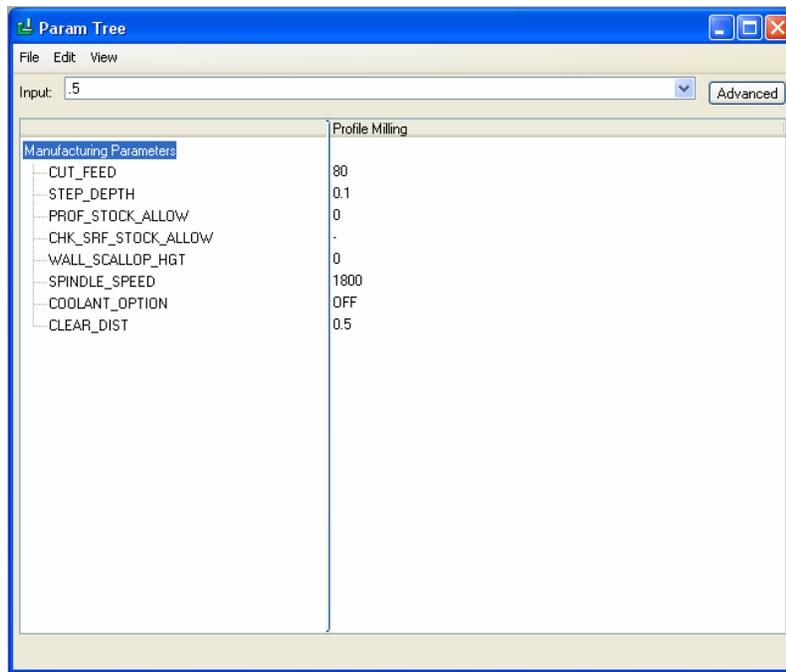

Figure 11: Parameters for profiling
Step 6: Choose SET and use the values shown in Figure 11. When finished, select FILE >> EXIT to save and exit the Parameter Tree dialog box.